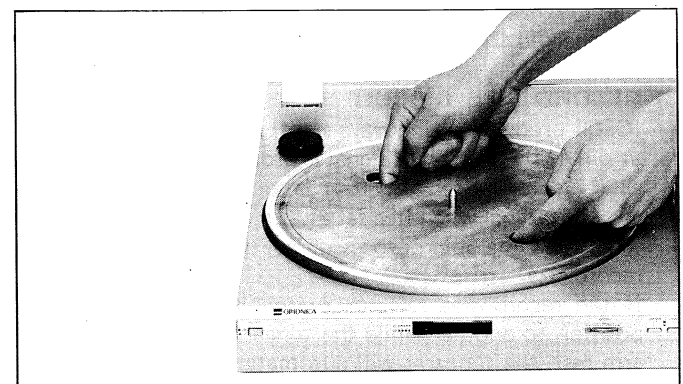

Figure 3-4
2. Gently pull the turntable out upwards. See Figure 3-4.